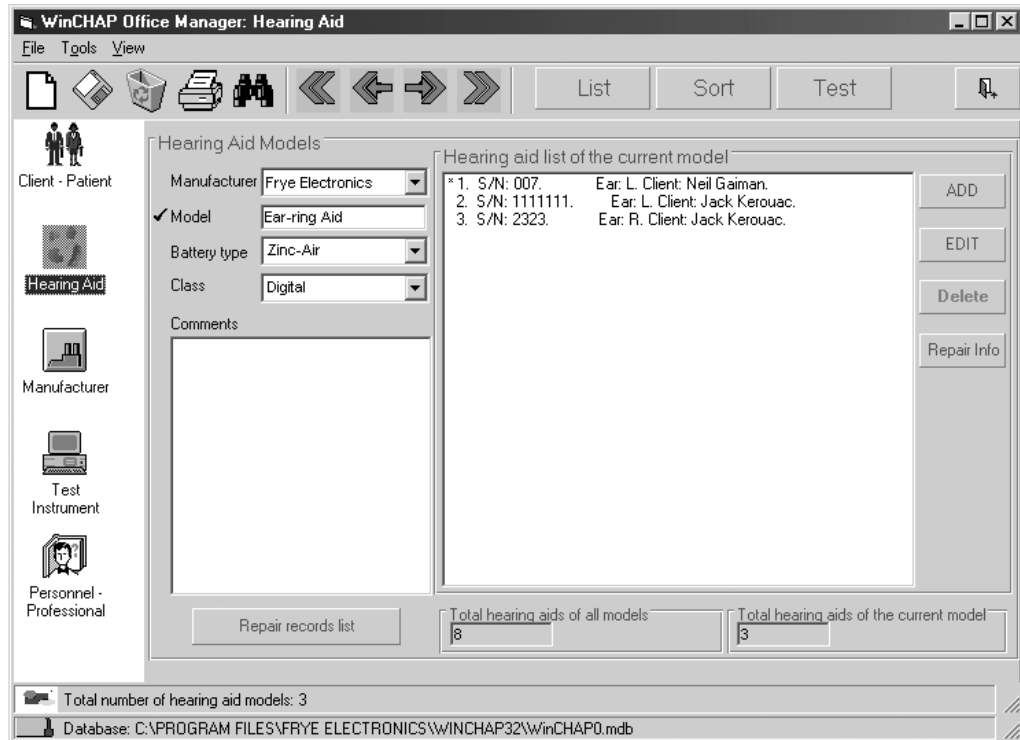

Figure 3.3.2—The Hearing Aid window
1. Enter the Hearing Aid window (Figure 3.3.2) by clicking **Hearing Aid** in the left column of the Office Manager window.